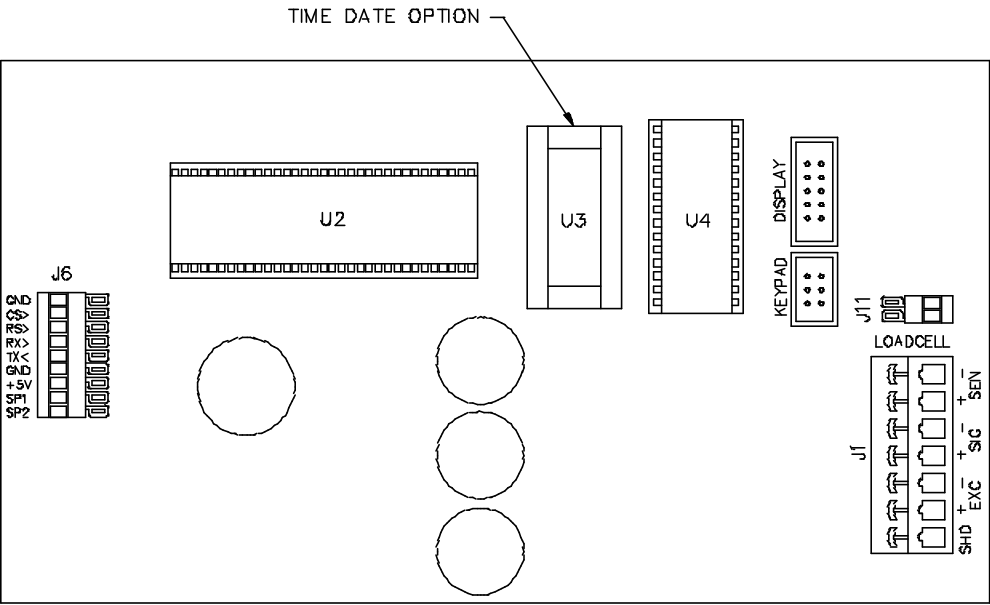
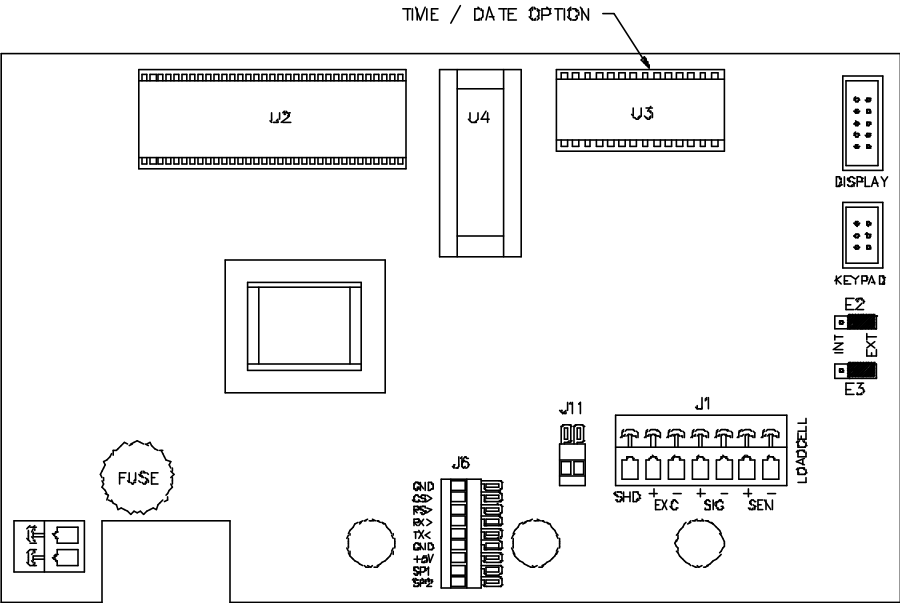

Figure 16-1 Time/Date Option Installation on Main Board PC777C
Figure 16-2 Time/Date Option Installation on Main Board, PC800
- e. Refer to Figure 16-1, Time/Date Option Installation on Main Board PC777C or Figure 16-2, PC800. Locate the U3 RAM IC on the Main Board PC777, PC800 or U3 on a 455. It is a large 28 pin IC located under the display module (standard enclosure types), near the display ribbon cable.